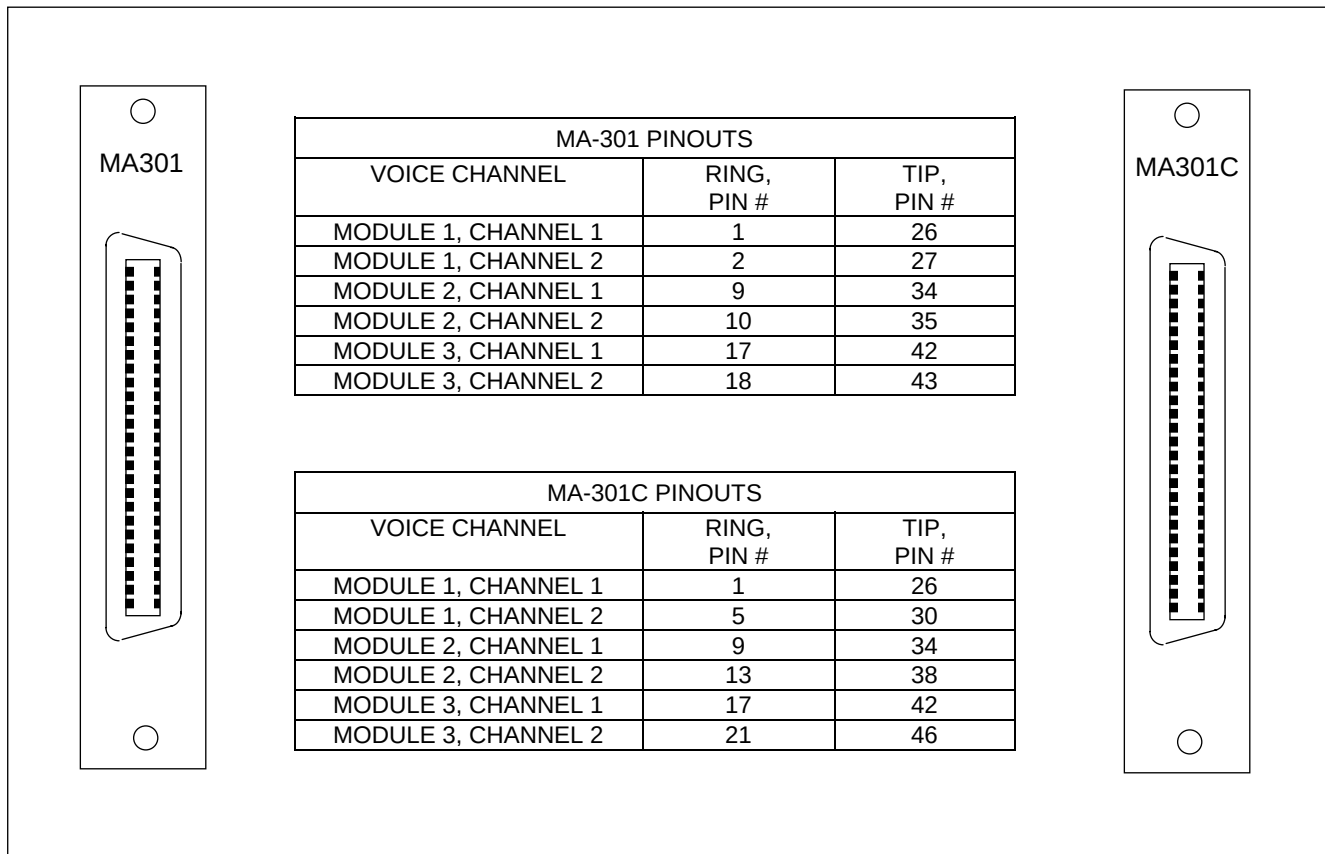
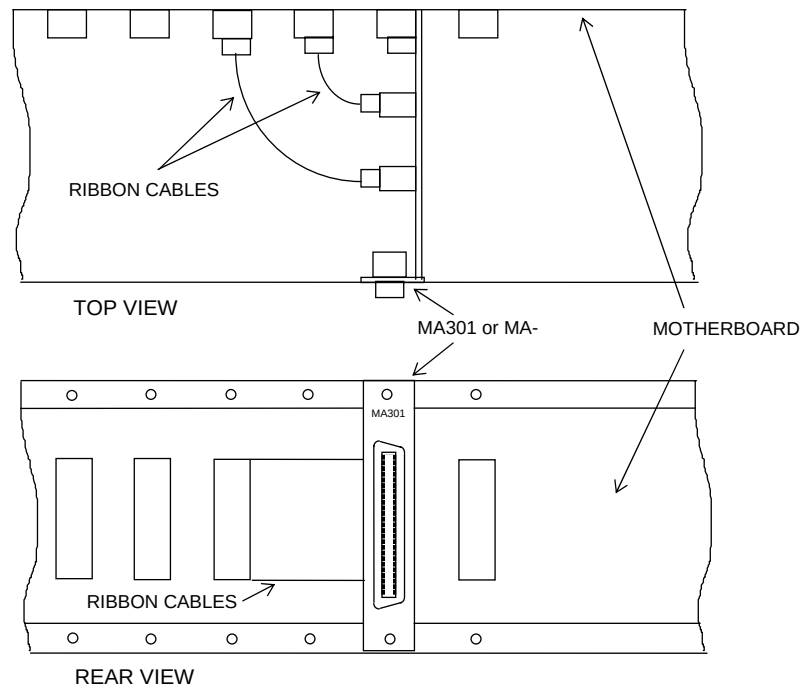

Figure 1. MA-301 and MA-301C Module Adapters
Figure 2. Using MA-301or MA-301C Module Adapters with multiple RFL VF-16B modules
The MA-301 accepts a 50-pin Telco connector (Amphenol 57-30500 or equivalent, as shown in Figure 1.) One MA-301 Module Adapter can be used to connect up to three RFL VF-15 or RFL VF-16 modules, for a total of up to six voice channels. If you will be using more than one module with the MA-301, they must be inserted into adjacent slots in the multiplexer. Ribbon cables are provided with the MA-301 to make connections to it from the second and third module locations. (See Figure 2.)
- If an MA-301 or MA-301C Module Adapter is being used, plug the 50-pin Telco cable end connector into its mating 50-pin connector on the module adapter. See Figure 1 and 2.